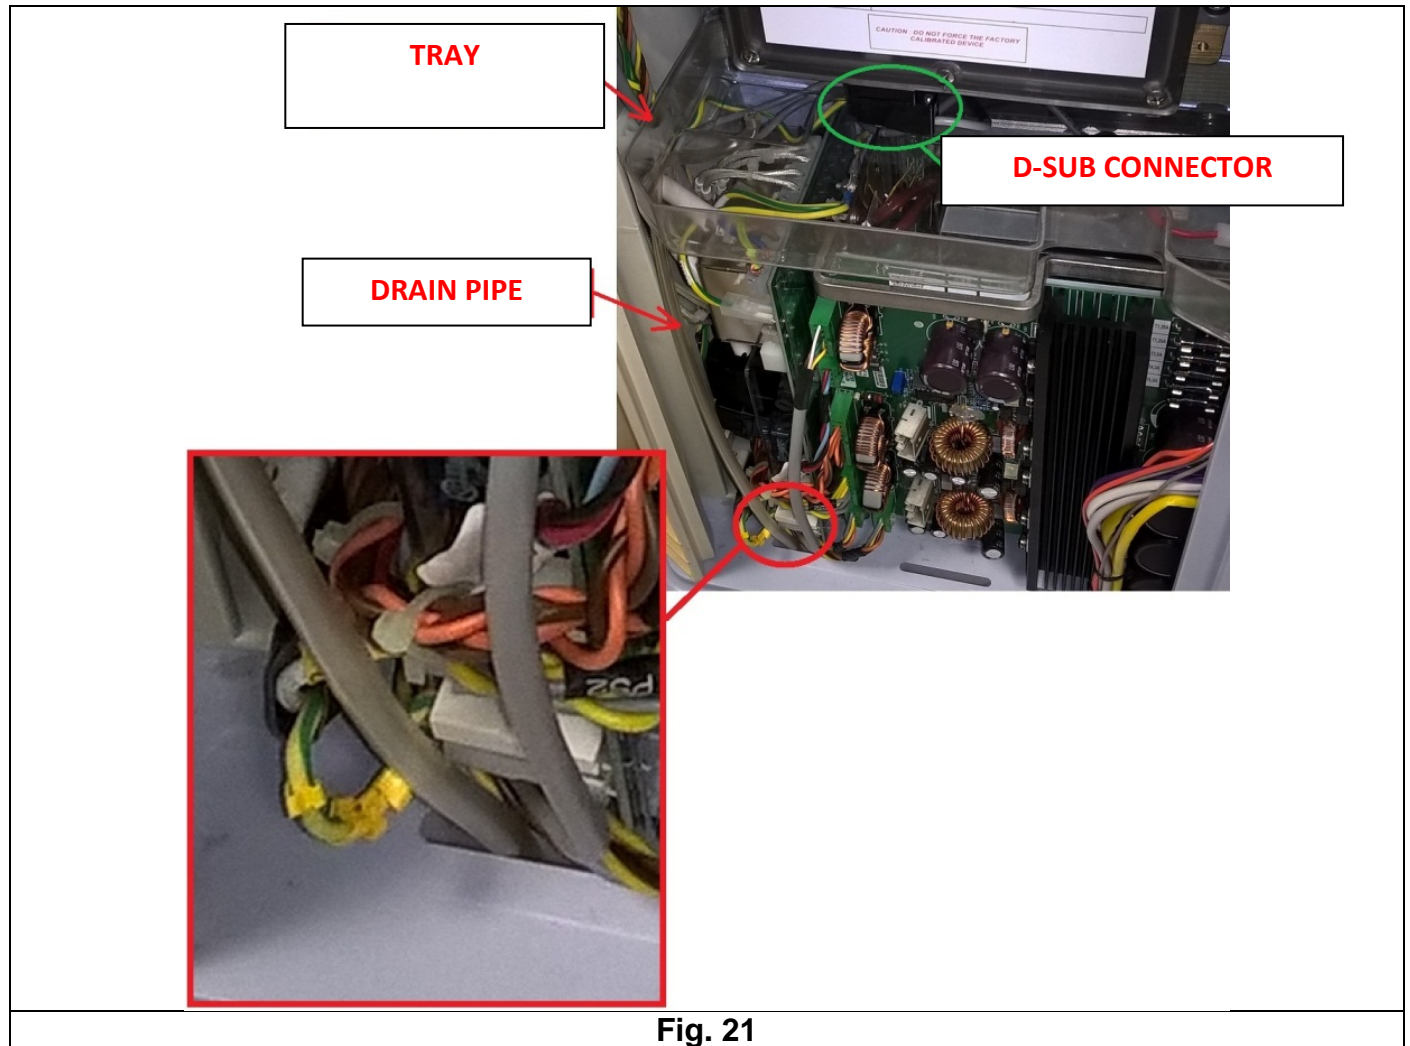

Fig. 21
18. Place the plastic protection tray over the PSU and route the drain pipe to the bottom of the machine (**Fig. 21**).
19. Connect the D-Sub connector to the differential flowmeter (**Fig. 21**).